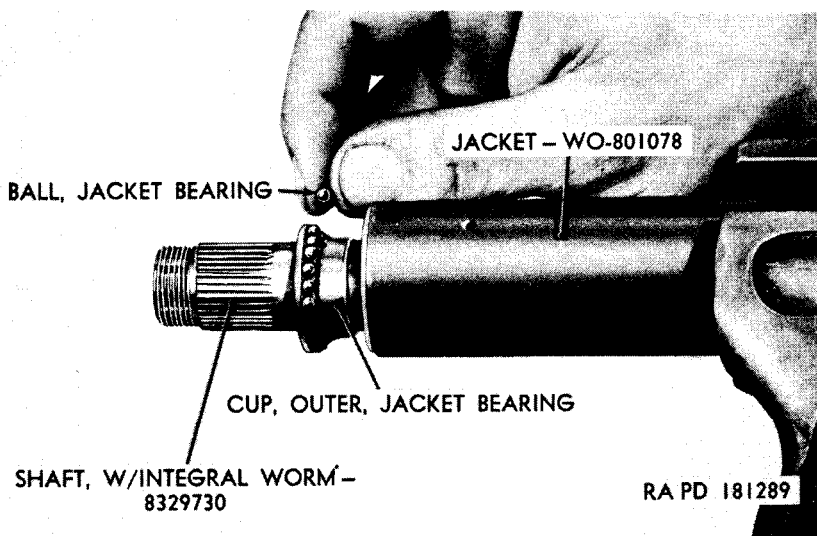

Figure 153. Installing jacket bearing balls.
and into interior of jacket (Z) until it rests on shoulder provided in jacket. Soak jacket oil seal (X) in SAE No. 10 motor oil to facilitate installation, and insert oil seal (X) (long lip outward) in jacket. Install jacket bearing outer cup (W) on outer edge of jacket. Position jacket bearing inner cup (U) on shaft (L). Coat 22 jacket bearing balls (fig. 153) with universal gear lubricant (GO) to aid in their assembly. Install balls on outer circumference of jacket bearing inner cup. Slide cup and balls into jacket bearing outer cup. Install jacket bearing spring seat (T), in interior of outer cup.